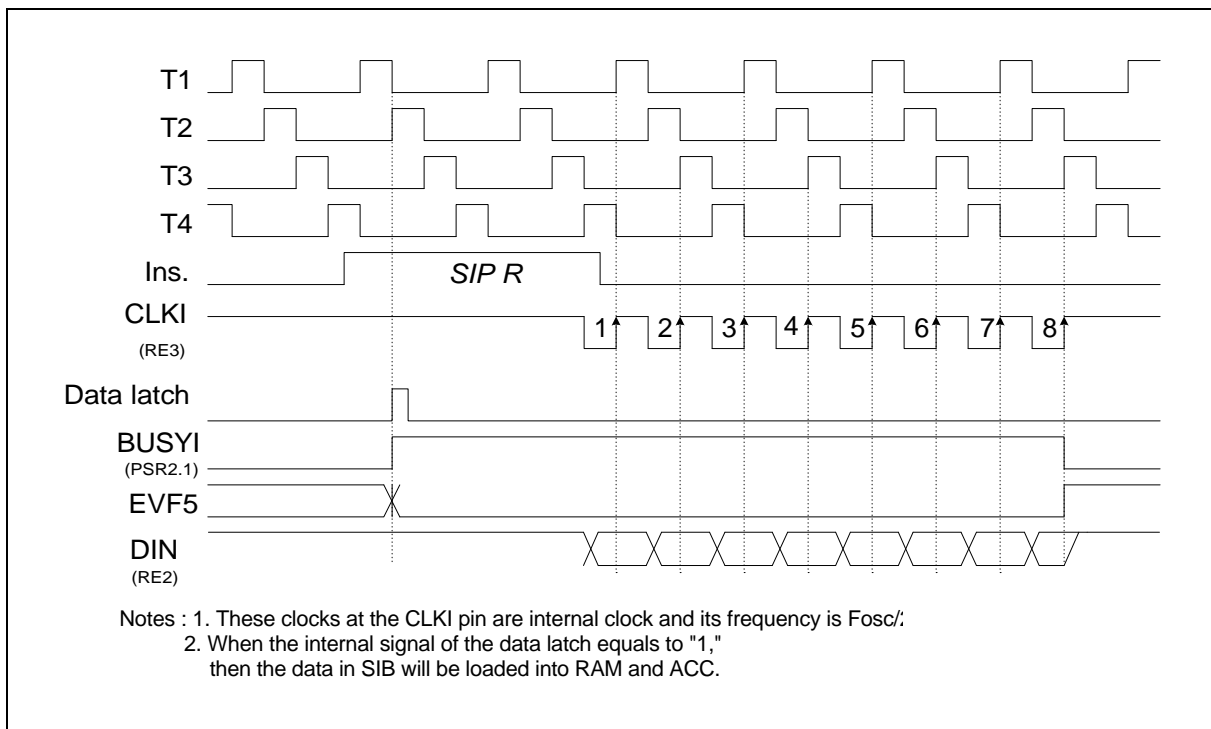

Figure 11. Timing of the Serial Input Function (SIP R)
- (1) When the SIP R instruction is executed, the data will be loaded from the serial input buffer to the ACC and RAM first, and bit 1 of port status register 2 will automatically be set to "1" ( $BUSY_I = 1$ ). Then the CLKI pin will send out 8 clocks and the data from the DIN pin will be loaded to SIB at the rising edge of the CLKI pin. After the 8 clocks have been sent,  $BUSY_I$  will be reset to "0" and EVF.5 will be set to "1." At this time, if IEF.5 has been set ( $IEF.5 = 1$ ), an interrupt is executed; if HEF.5 has been set ( $HEF.5 = 1$ ), the hold state is terminated. Users can check the status of PSR2.1 ( $BUSY_I$ ) to know whether the serial input process is completed or not. If a serial input process is not completed, and the SIP R instruction is executed again, the data will be lost. The timing is shown in Figure 11.